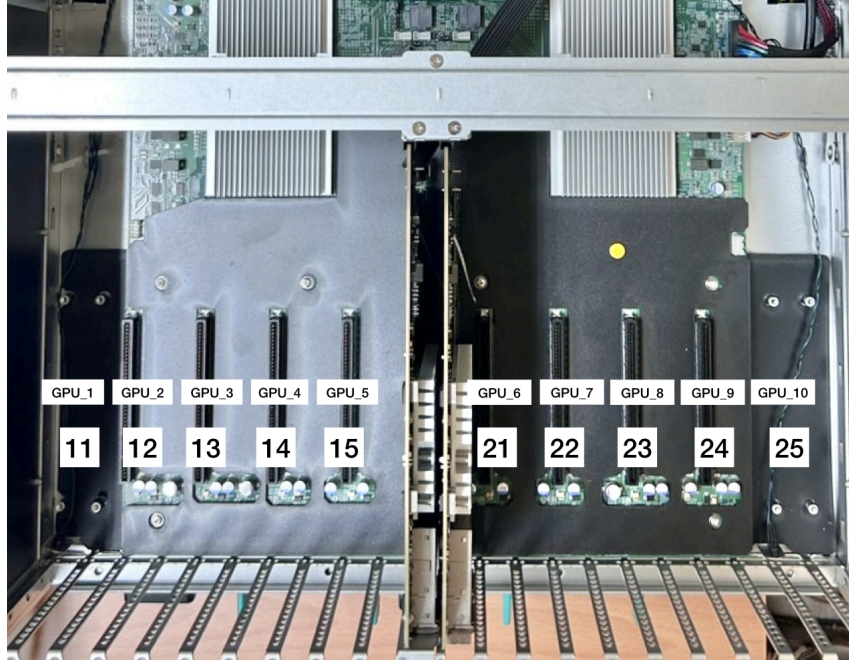

Figure 33. PCIe Slots with Corresponding Numbers
- A. Power Cable Mapping: Use the appropriate GPU power cables and connect them according to the following mapping (refer to Figure 33):